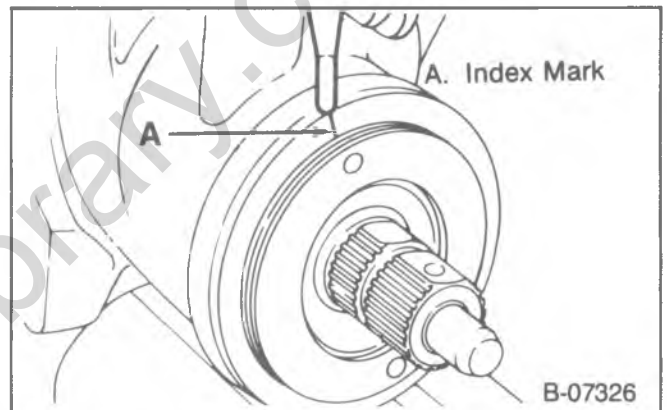
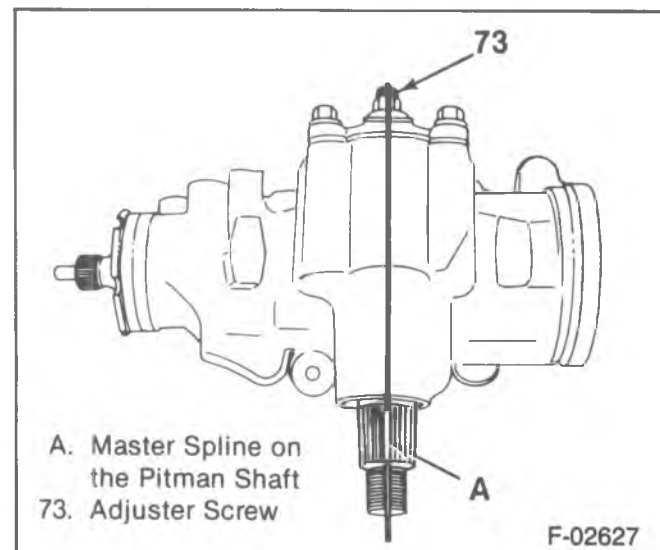

Figure 14—Marking Housing Even with Adjuster Plug
Figure 19—Aligning the Pitman Shaft Master Spline
3. Place an index mark on the housing even with one of the holes in the adjuster plug (figure 14).
1. Turn the pitman shaft adjuster screw (73) counterclockwise until fully extended, then turn back $\frac{1}{2}$ turn clockwise.
2. Rotate the stub shaft (4) from stop to stop and count the number of turns.
- When the gear is centered, the flat on the stub shaft should face upward and be parallel with the side cover (21) (figure 14) and the master spline on the pitman shaft should be in line with the adjuster screw (73) (figure 19).